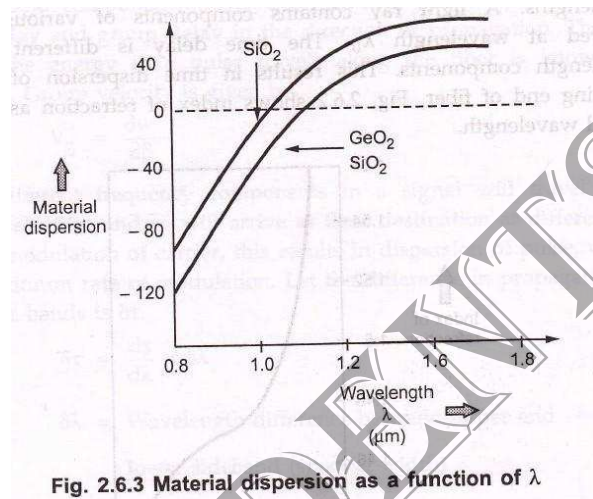

Fig. 2.6.3 Material dispersion as a function of  $\lambda$
- x A plot of material dispersion and wavelength is shown in Fig. 2.6.3